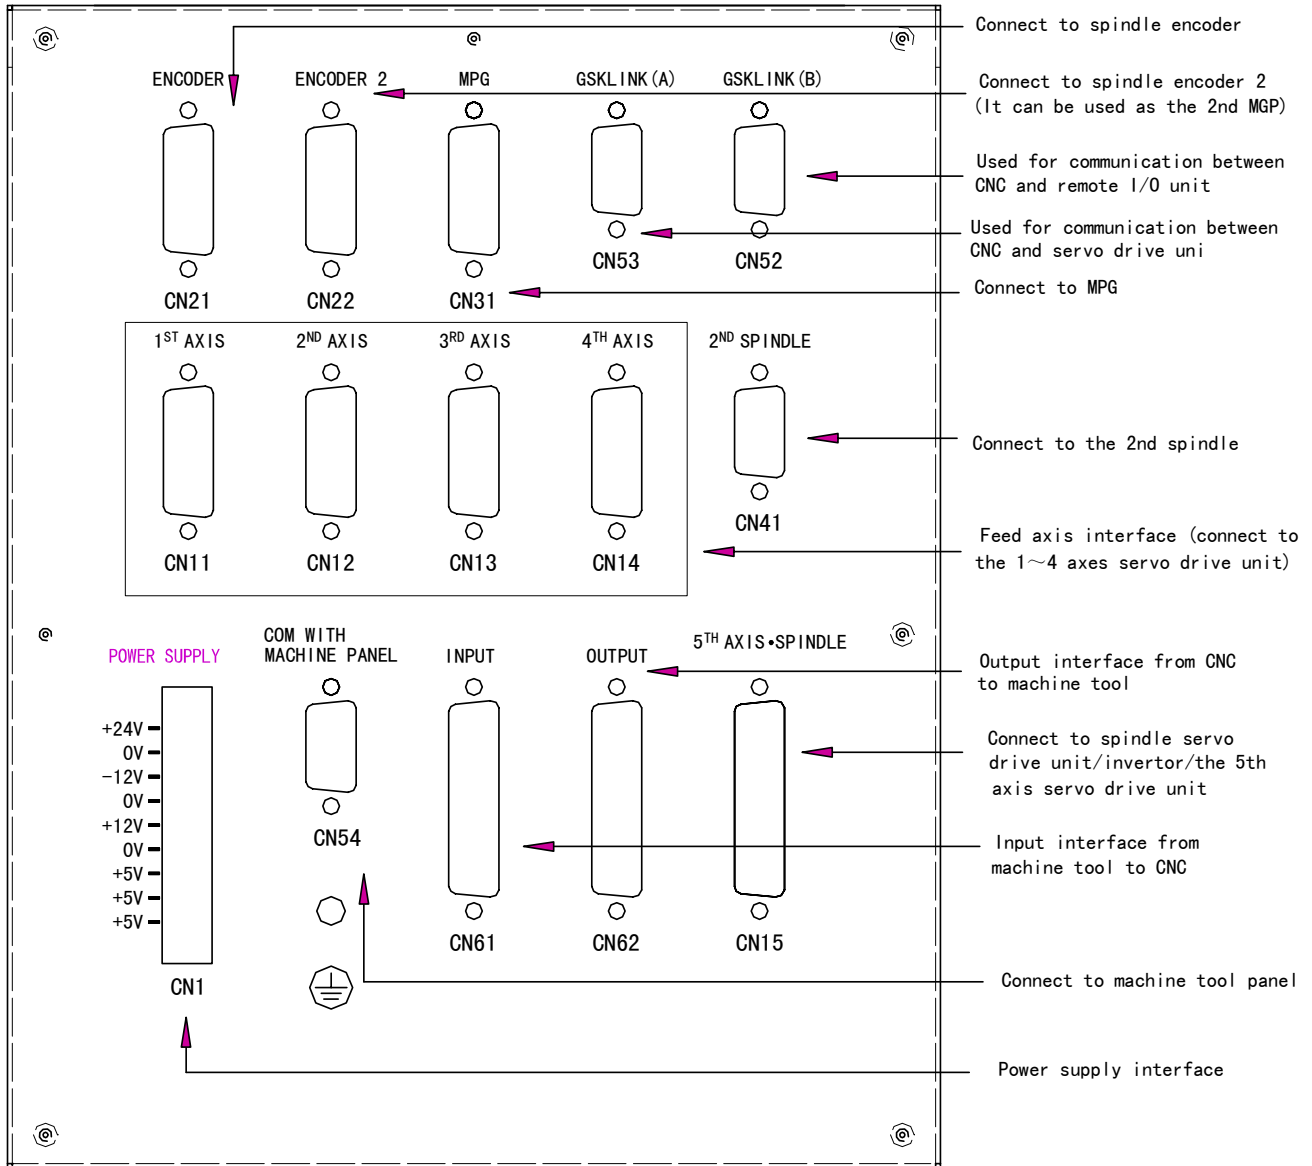

Fig. 1-2-1 The layout of GSK988T mainframe rear cover interfaces
**Note: These interfaces are compatible with GSK988T-H system. See Fig.1-2-1**